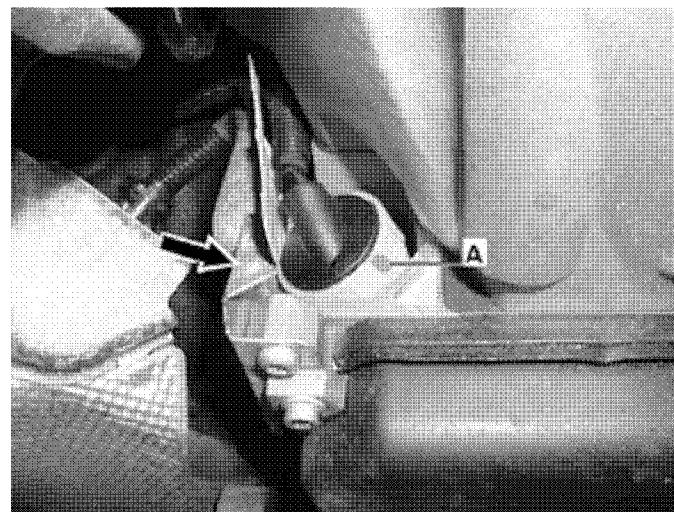

Figure 1
1. Inspect pilot bushing for green color coding(A, Figure 1).
1. Remove heat shield (arrow, Figure 1).
5. Mark new pilot bushing with a permanent green dot at location visible with heat shield in place (as shown in Figure 1).